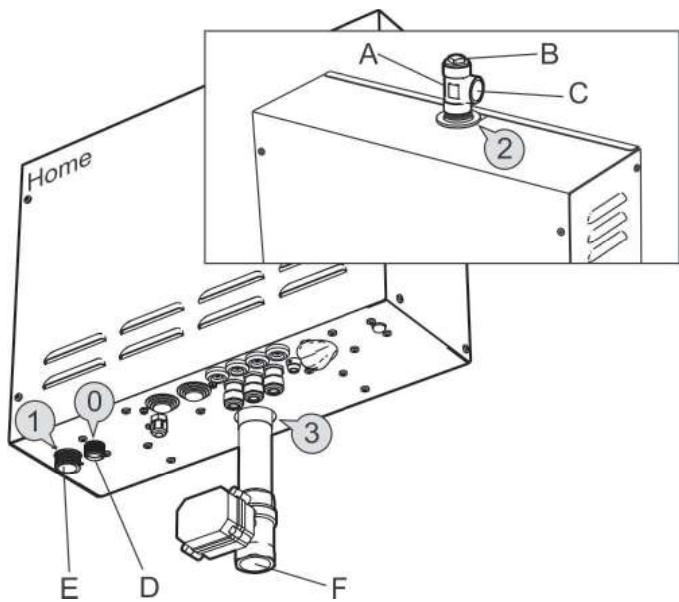

Fig. 6 Home type steam generator
Connect cold water to connection 1 (Fig. 6,7) on the steam generator. The incoming water pressure must be between min. 0.2 and max 10 bar (min. 20kPa and max 1000kPa).
Fit the connector, with the lock nut uppermost, to steam outlet 2 (Fig. 6,7) on the steam generator. Connect a copper pipe, with an internal diameter of at least 18mm, to the connector steam outlet (C). The steam pipe can have a down-slope either towards the steam room or towards the steam generator. Alternatively the steam pipe can be installed with a slope down towards both the steam room and towards the steam generator.
For drainage connect a copper pipe of good quality and an internal diameter of at least 25 mm to connection 3 (Fig. 6,7) on the steam generator. The steam generator drain pipe is led to the nearest drain outside the steam room. The temperature of the water being drained is about 80-85°C.
A draining pipe connected to the safety valve D (0)(Fig. 6 and 7) is to be installed in a continuously downward direction and in a frost-free environment.